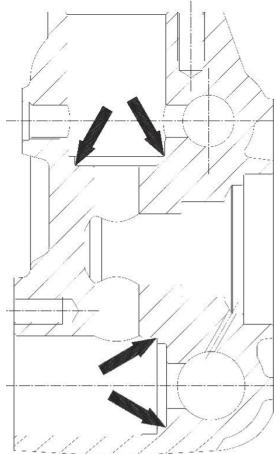

Fig. 18
**!** Before repositioning the valve units, thoroughly clean and dry the relative seats in the head as shown in Fig. 18.